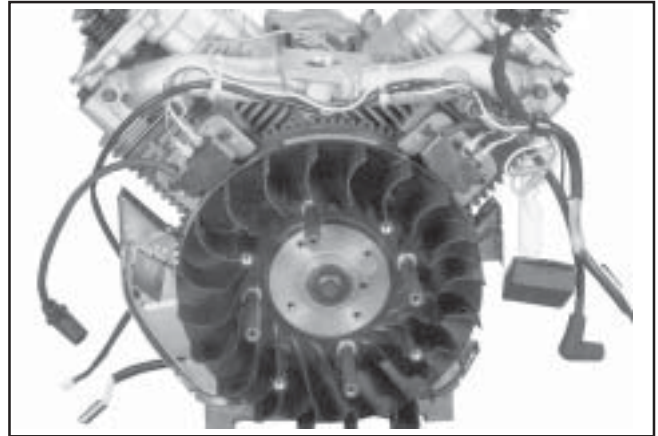

**Figure 11-50. Sealant Applied to Terminals.**
**NOTE:** If the wires were disconnected from the ignition modules on engines with SMART-SPARK™, reattach the leads and seal the base of the terminal connectors with GE/Novaguard G661 (see Section 2) or Fel-Pro Lubri-Sel dielectric compound. The beads should overlap between the terminals\* to form a solid bridge of compound. See Figure 11-50. Do not put any compound inside the terminals.